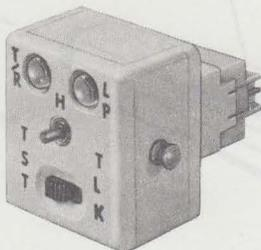

Fig. 8—B Key Equipment Test Block♦
2.11 The B key equipment test block can be used to test CO/PBX line circuits in 1A1 or 1A2 Key Telephone Systems (KTSs). The test block (Fig. 8) can be used on 88-type connecting blocks in the red or blue fields with or without jumpers terminated on the connecting block. Spring-loaded probes make connection with the contacts associated with T, R, A, A1, LG, and L on the station side of the line circuit. The test block is also equipped with two lamps (T/R and LP), a pushbutton (H), and a 2-position slide switch (TST-TLK). Two terminals on the sides of the test block are provided for connecting a 1013A or